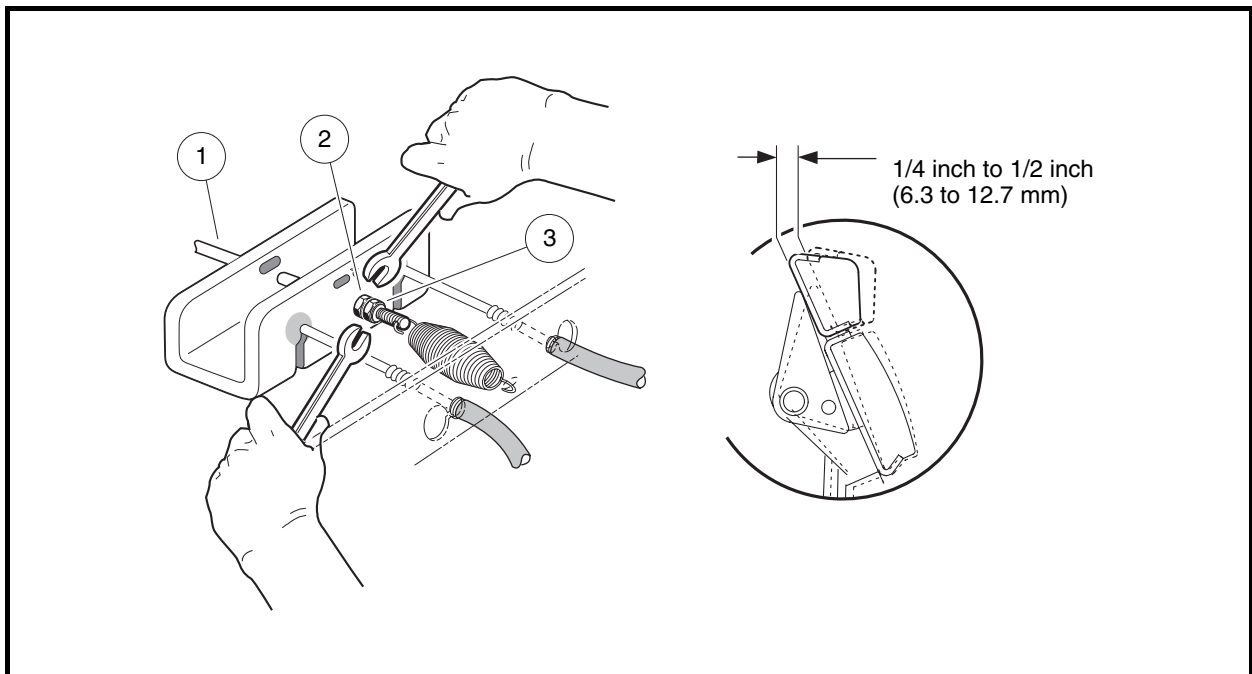

Figure 5-23 Brake Pedal Free-Play Adjustment
- 3.2. Tighten the nut (2) on the equalizer rod (1) so that the brake pedal free play is 1/4 to 1/2 inch (6.3 to 12.7 mm) (**Figure 5-23, Page 5-17**).
- 3.3. Tighten the jam nut (3) while holding the adjustment nut (2) in the correct position (**Figure 5-23, Page 5-17**).